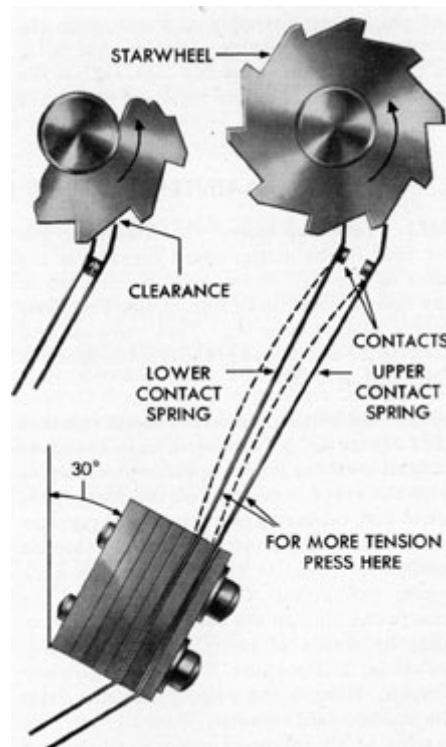

Figure 20-6. Distance repeater contacts adjustment.
**20E3. Installing and adjusting distance repeater contacts.** (See Figure 20-6.) Remove the old contact assembly as a unit from the transmitter case bracket. Resolder the wires to the new contact assembly lugs, replace the insulating sleeves on the lugs, and mount the
and tighten the holding screws. If either contact spring does not press against the star wheel in the open position, increase its tension by bending the spring as shown in Figure 20-6. Heavy spring tension is more desirable than light tension. Rotate the star wheel until the upper (longer) contact spring just drops clear of the tooth. At this instant the upper contact should rest squarely on the lower contact, but the upper contact spring should not touch the star wheel until the lower contact spring drops to the next tooth. This is important for proper, quick, make and break operation. If necessary, bend the tip of the upper contact spring to provide the correct clearance as shown in Figure 20-6. When the contacts are clean and properly adjusted, there should never be excessive sparking. The tungsten contacts must be absolutely free of oil or grease. If the contacts are pitted, they may be cleaned with fine sandpaper or a contact stone. Do not oil the star wheel.